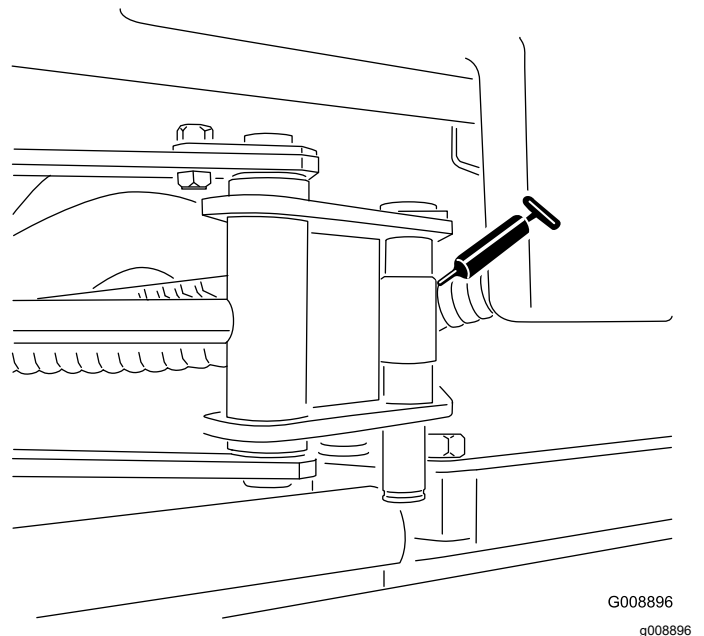

Figure 47
- Sidewinder cylinder ends (2; Model 03171 only) (Figure 47)